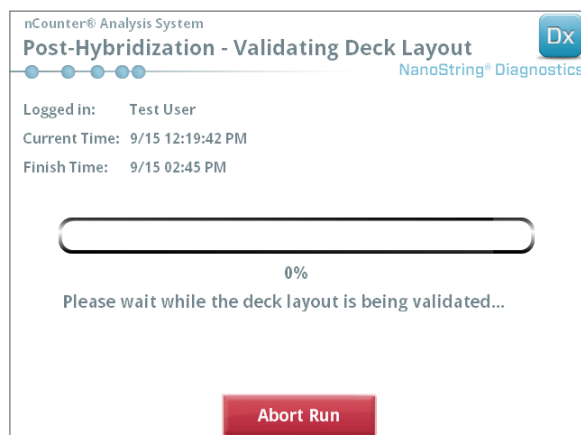

FIGURE 5.26: The 'Post-Hybridization - Validating Deck Layout' screen
- b. The nCounter Prep Station will now check that all of the consumables and reagents have been placed properly on the deck (**FIGURE 5.26**). To do this, the Prep Station confirms that the sensors for the sample cartridge, electrode fixture, and heater lid are all in the correct state. The pipette head then checks that tips, tip sheaths, strip tubes, and reagent plates are all in place by touching them with a set of validation tips. Do not be alarmed that the Prep Station is touching the consumables; this is a part of normal operation. If the Prep Station determines that a consumable is misplaced, it will instruct the user to fix the configuration.